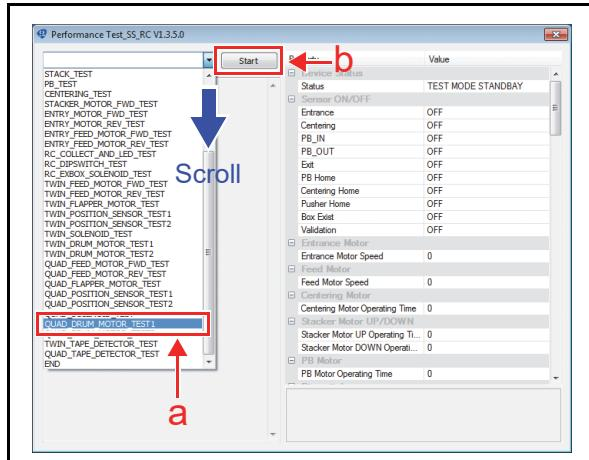

**Figure 6-66 Solenoid Test (RQ Transport) 2**
5. Confirm the “ON/OFF” indication in the “RC-Solenoid (RC-Quad)” area (Figure 6-66 a) is switched as Solenoid moves.
6. Click the “Stop” Screen Button (Figure 6-66 b) to end the test.